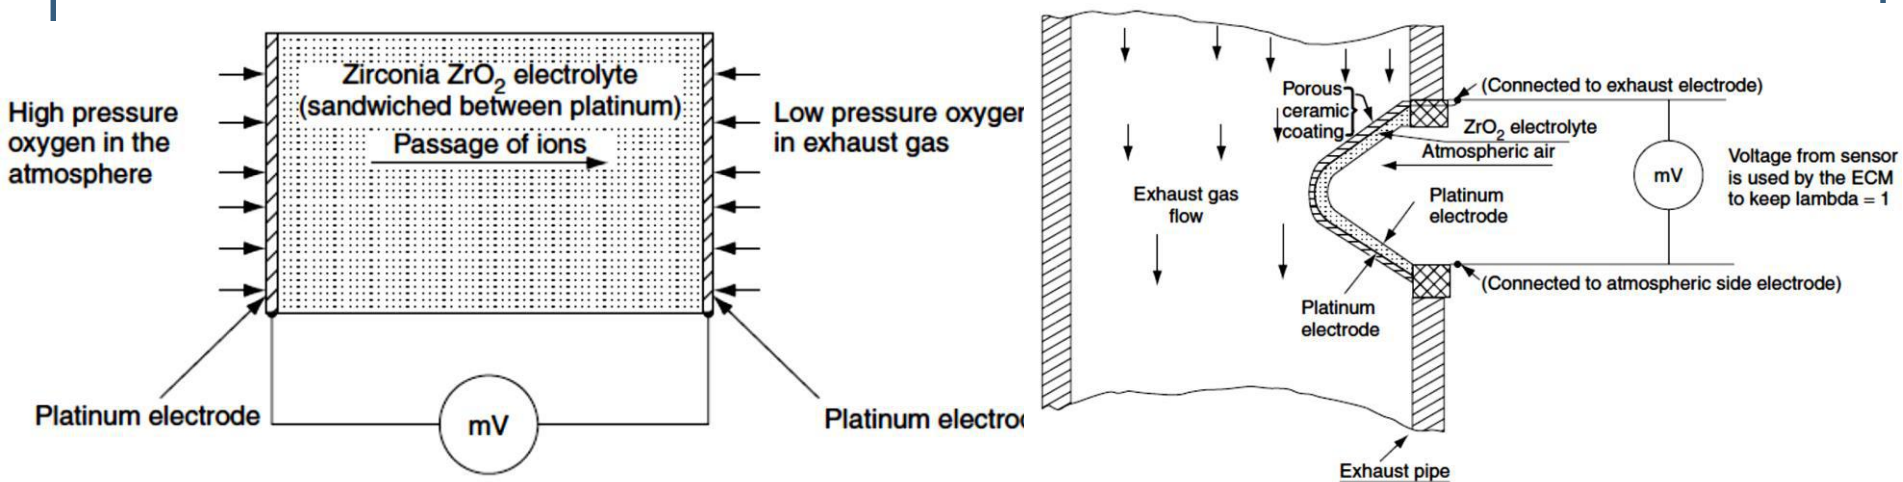

Fig. 5.27 The EGO sensor as a voltaic cell
- Figure 5.27 shows that the sensor element is essentially a cell (battery). The plates are made from platinum and they have a layer of ceramic zirconia between them which acts as an electrolyte.